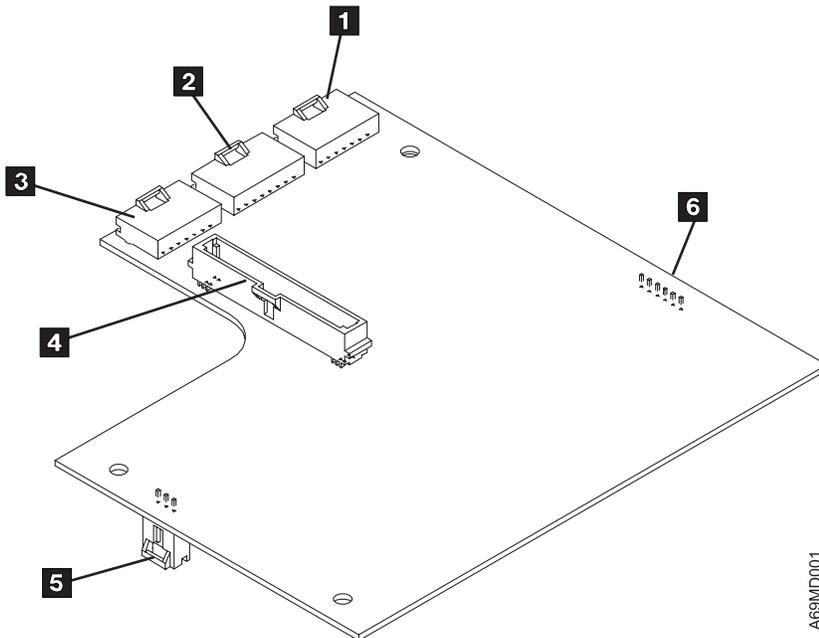

Figure 101. PDC Card Cables
5. Refer to Figure 101 to remove any remaining cables on the PDC card.